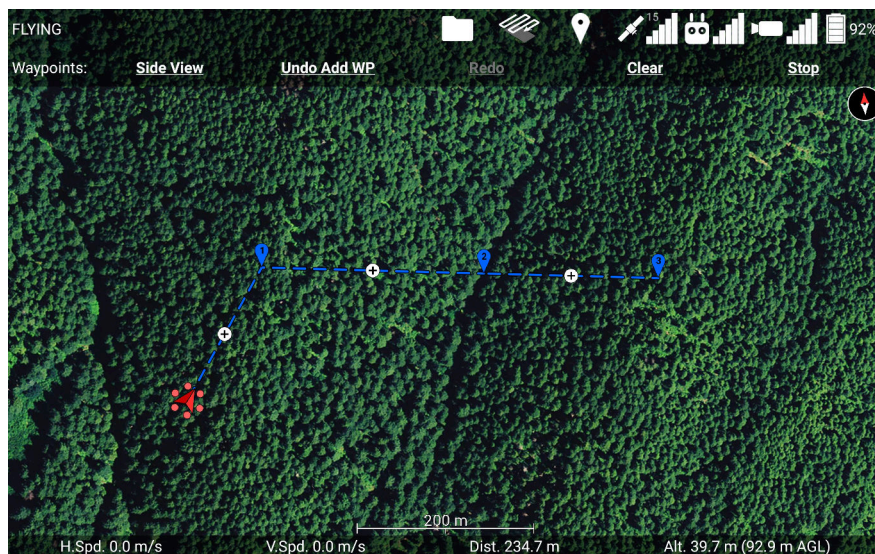

Figure 92: The path through waypoint 2 doesn't change heading, which allows you to move waypoint 2 left and right in the side view.
shown in Figure 92. The app doesn't require the waypoints to be perfectly aligned in order to move them left and right in the side view, so you'll be able to use this feature even if you drag the waypoints into a line by hand in the top-down map view. Moving waypoint 2 left and right in the side view will move it closer to the previous waypoint (1) or closer to the following waypoint (3), but it will stay along the line that connects the two.